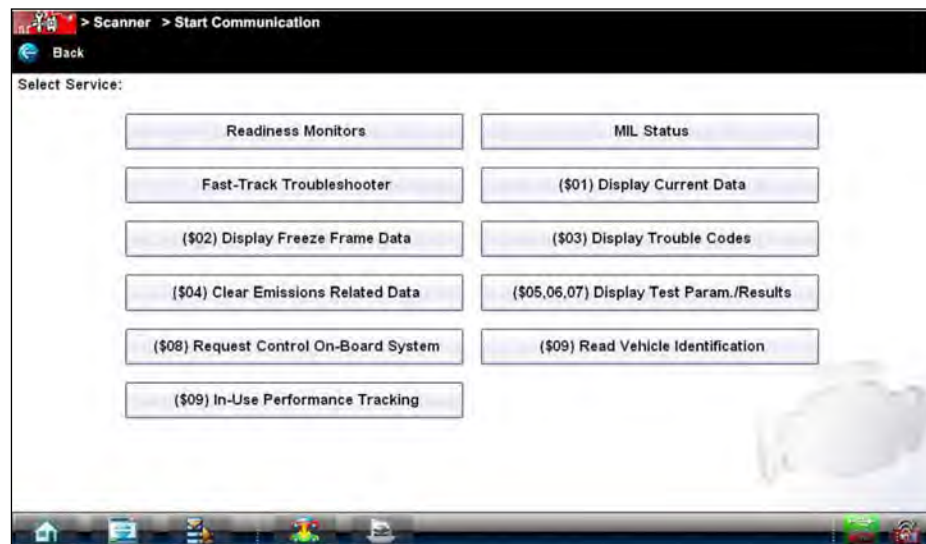

Figure 6-6 Sample Start Communication menu
3. Select **Continue** and a menu of available tests displays (Figure 6-6).